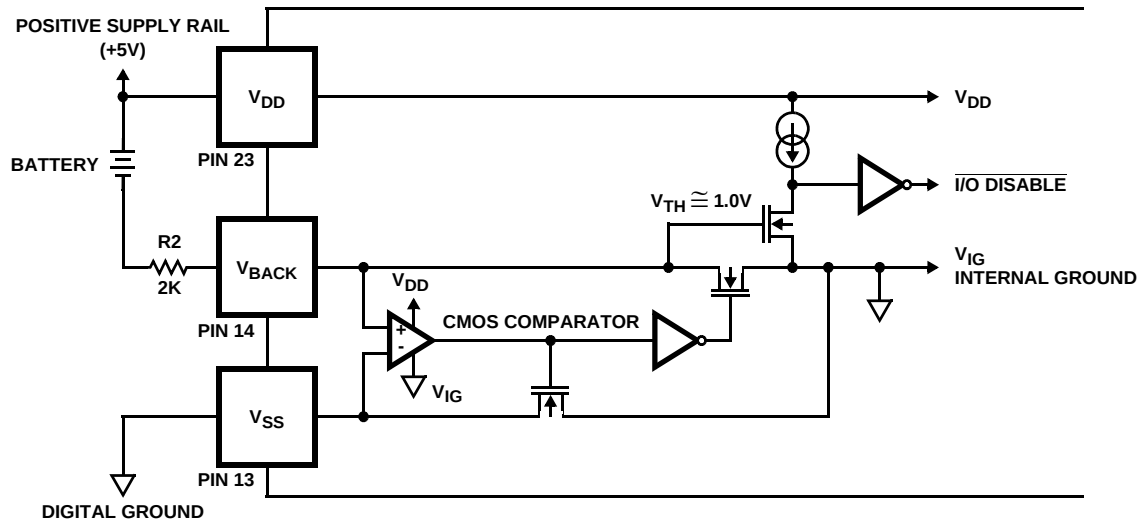

FIGURE 6. SIMPLIFIED ICM7170 BATTERY BACKUP CIRCUIT
The ICM7170 contains an on-chip power down detector that eliminates the need for external components to support the battery-backup switchover function, as shown in Figure 6. Whenever the voltage from the V_{SS} pin to the V_{BACKUP} pin is less than approximately 1.0V (the V_{TH} of the N-channel MOSFET), the data bus I/O buffers in the ICM7170 are automatically disabled and the chip cannot be read or written to. This prevents random data from the microprocessor being written to the clock registers as the power supply is going down.
The new load configuration (Figure 6) allows these two conditions to be met independently. The two load capacitors, C1 and C2, provide a fixed load to the oscillator and crystal. C3 adjusts the frequency that the circuit resonates at by reducing the effective value of the crystal's motional capacitance, C0. This minute adjustment does not appreciably change the load of the overall system, therefore, stability is no longer affected by tuning. Typical values for these capacitors are shown in Table 5. C1 and C2 must always be greater than twice the crystal's recommended load capacitance in order for C3 to be able to trim the frequency. Some experimentation may be necessary to determine the ideal values of C1 and C2 for a particular crystal.
4. **EXTERNAL BATTERY BACKUP** - The ICM7170 may be placed on the same power supply as battery-backed up RAM by keeping the ICM7170 in its operational state and having an external circuit switch between system and backup power for the ICM7170 and the RAM. In this case V_{BACKUP} should be pulled up to V_{DD} through a 2K resistor. Although the ICM7170 is always "on" in this configuration, its current consumption will typically be less than a microamp greater than that of standby operation at the same supply voltage (See Note 9). Proper consideration must be given to disabling the ICM7170s and the RAMs I/O before system power is removed. This is important because many microprocessors can generate spurious write signals when their supply falls below their specified operating voltage limits. NANDing $\overline{CS}$ (or $\overline{WR}$) with a POWERGOOD signal will create a $\overline{CS}$ (or $\overline{WR}$) that is only valid when system power is within specifications. The POWERGOOD signal should be generated by an accurate supply monitor such as the ICL7665 under/over voltage detector. An alternate method of disabling the ICM7170's I/O is to pull V_{BACKUP} down to under a volt above V_{SS} ($V_{SS} < V_{BACKUP} < 1.0V$). This will cause the ICM7170 to internally disable all I/O. Do not allow V_{BACKUP} to equal V_{SS} , since this could cause oscillation of the battery backup comparator (See Figure 6). $V_{BACKUP} = V_{SS} + 0.5V$ will disable the I/O and provide enough overdrive for the comparator.